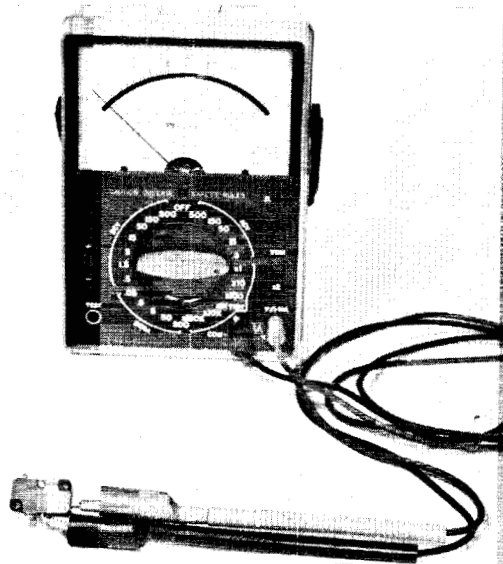

Figure 6.1a
6.1 TEST SWITCH (figs. 6.1a, 6.1b)